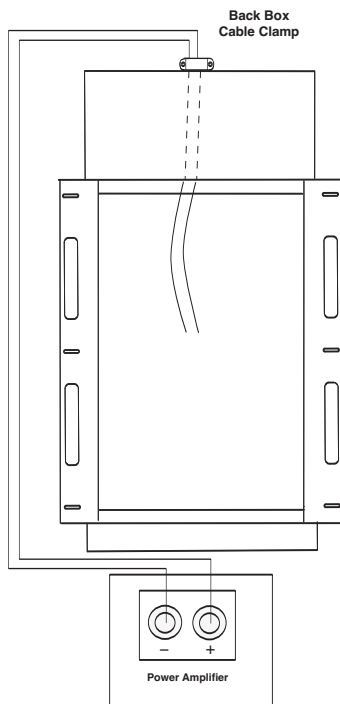

Figure 6: Amplifier Connections
4. Feed the power amplifier wires from the wall cavity down through the cable clamp located on top of the enclosure. Pull approximately two feet of wire through the clamp to create a generous service loop inside the enclosure for ease of hookup, as shown in Figure 6.